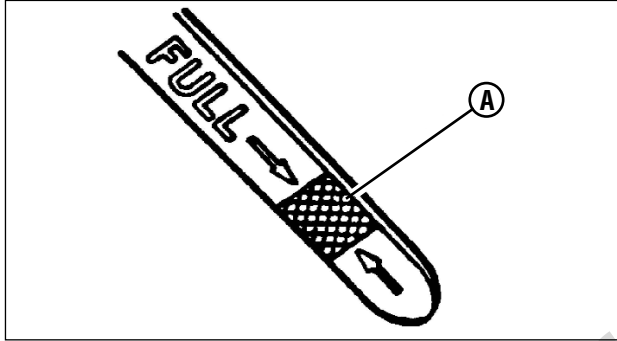

Figure 1: Engine oil 'Full' mark
3. Check engine oil and add oil as needed to bring level up to the FULL mark (**A, Figure 1**). Refer to the engine manual for oil specifications.